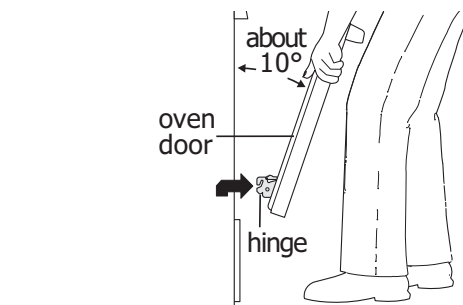
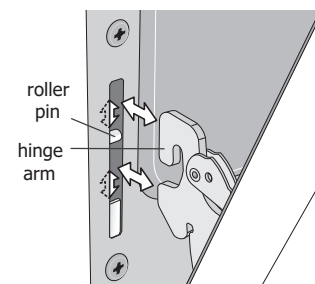

Figure 8: Holding door for removal
Figure 9: Replacement and location of hinge arm and roller pin
3. Firmly grasp both sides of oven door along the door sides. Do not use the oven door handle (See Figure 8).
4. Close the door to approximately 10 degrees from the door frame (See Figure 8).
5. Lift the oven door hinge arms over the roller pins located on each side of the oven frame (See Figure 9).
1. Firmly grasp both sides of oven door along the door sides. Do not use the oven door handle (See Figure 8).
2. Holding the oven door at the same angle as the removal position, seat the hook of the hinge arm over the roller pins located on each side of the oven door frame (See Figure 8 and Figure 9). The hook of the hinge arms must be fully seated onto the roller pins.